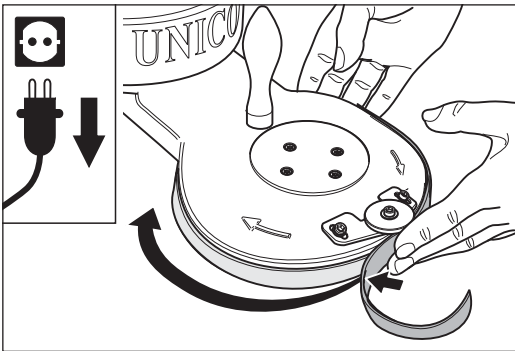

Fig. 8 Install the Velcro strip carefully to ensure properly sealing.
- 3 Fasten the Velcro strip by one end of the adhesive strip to the attachment and then place it all the way around the attachment (Fig. 8).